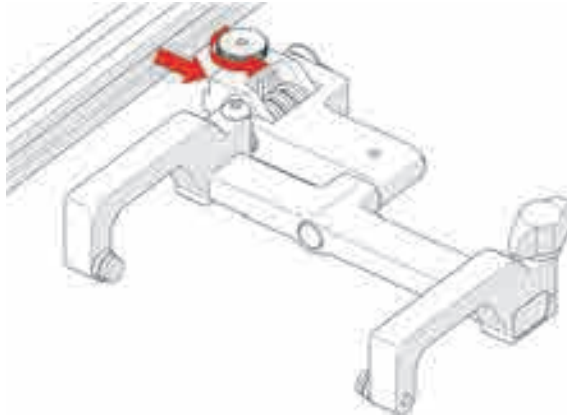

Figure 4-74 Attach probe holder
1. Rotate the probe holder adjustment knob (see Figure 4-74 on page 149), and attach the probe holder to a probe holder mount of a raster arm or to a frame bar.